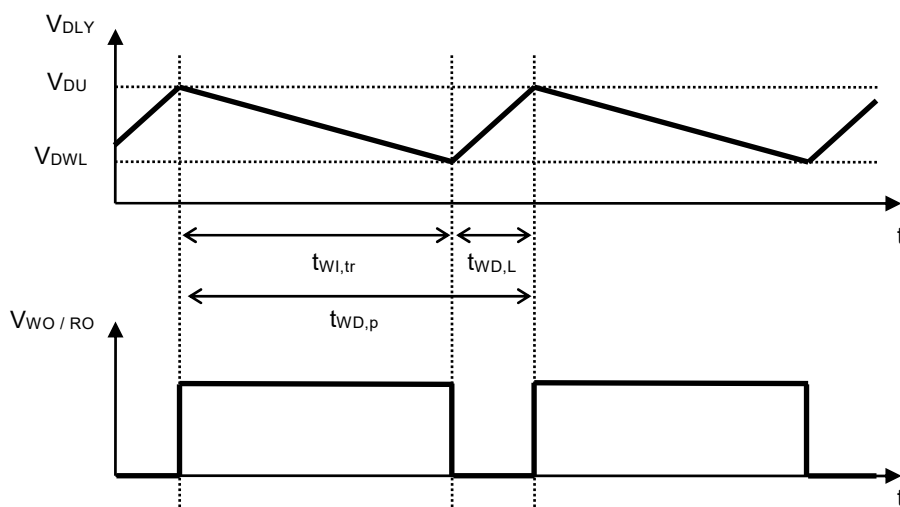

Figure 7
*1. The period of the continuous rectangular wave that appears in the WO / RO pin when the watchdog timer repeats the detection of a time-out (Refer to **Figure 7**). It is calculated by using the following equation.
*2. The time when the WO / RO pin continues "L" after the watchdog timer detects a time-out (Refer to **Figure 7**).
*3. The time from when the watchdog timer initiates the detection of a trigger signal to when a time-out is detected and the WO / RO pin output changes to "L" (Refer to **Figure 7**). This value changes according to C_{DLY} .